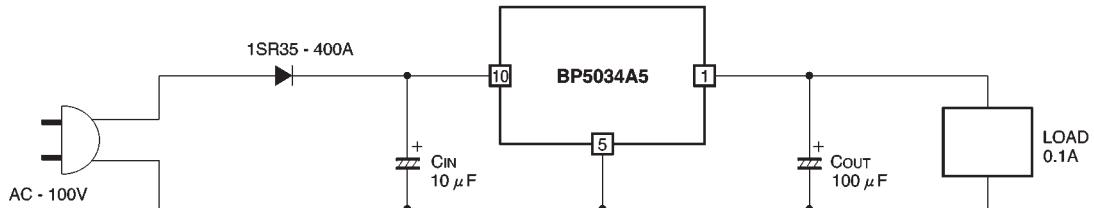

Fig.8
- Electrical characteristic curves (Measurement circuit is Fig. 8)